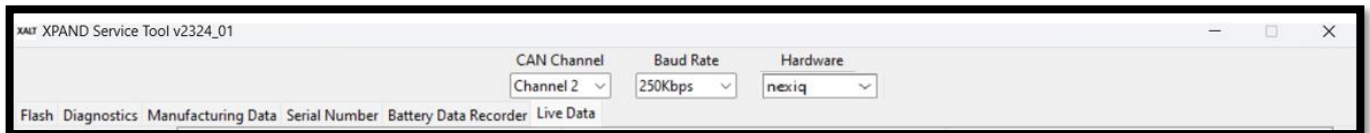

Fig 2: XST setup for MCU bootloader
- 9.1. Refer Electrical schematics and locate T15 as shown in Fig 2. Set the T15 to 24V
- 9.2. Refer Electrical schematics and locate T30 as shown in Fig 2. Use multimeter to monitor the current draw at the T30. Initially, the current should be around 130 mA.